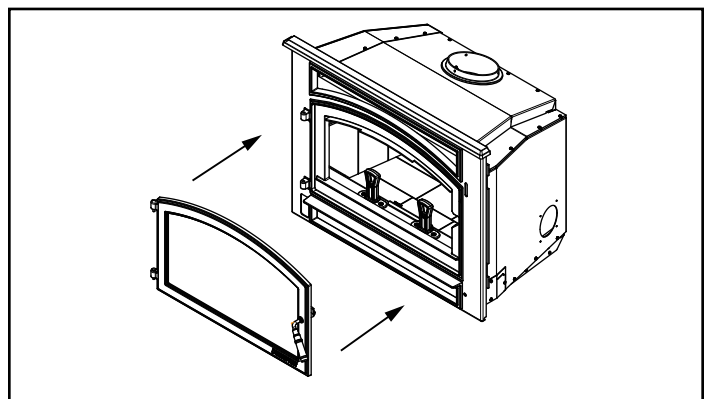

Figure 5.11
6. Reinstall door to face of appliance (**Figure 5.11**).
9. Reinstall the door to the face of the appliance (**Figure 5.11**).